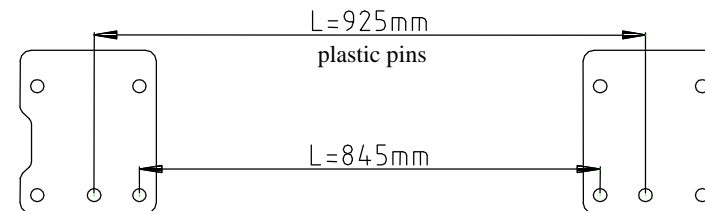

Fig.2 Elements distance
3. On the left and right side in the boot are plastic pins ( $\varnothing 11\text{mm}$ ). On this pins put elements pos. 6 (pins in pos. A hole) – see fig. 2. Next drill holes through holes pos. 2 and 3, use bit  $\varnothing 11\text{ mm}$ , drill straight through.
4. Put bolts M10x40 through holes(pos. C in element pos. 6 and next from below of car sandwich element pos. 4 from the left side (screw loosely), from the right side sandwich element pos. 5 (screw loosely too).
5. Through holes pos. B (in elements pos. 6) put bolts M10x30 and fix it with floor and element pos. 7.
6. In this way prepared elements (pos. 4 and 5) put main bar of the towbar (pos. 1) and fix it using bolts M12x30 (loosely).
7. Through holes pos. D fix with original tow handle using distance plain washers  $\varnothing 58 \times \varnothing 12 \times 6\text{mm}$  pos. 8.
10. Fix body of the automat (pos. 22) and the socket plate (pos. 3) using bolts M12x25mm (pos. 9) from accessories. Place tow-ball (pos. 2) according to supplied instruction.